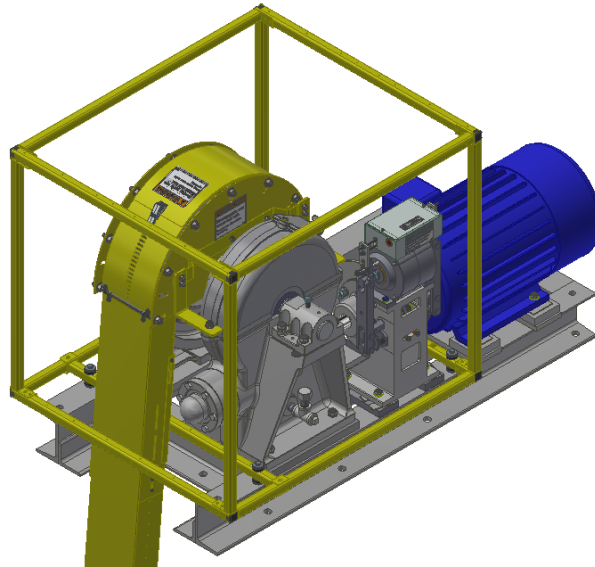

Figure 12: Machine Guard Frame Assembled View
- For an assembled view of current progress reference the Machine Guard Mounting Tube Assembled View below (Figure 12).